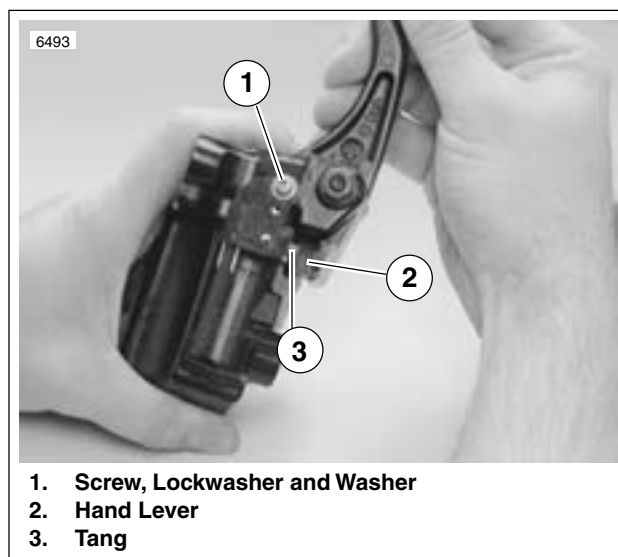

Figure 2-25. Testing Hand Lever
- a. Align hole in lever (3) with hole in master cylinder assembly.
- b. Lubricate pivot bolt (2) with **LOCTITE ANTI-SEIZE**.
- d. Install **nut** (1) (metric). Tighten to **44-62 in-lbs** (5-7 Nm).
5. See Figure 2-25. Install front brake lamp switch (7).
- a. Attach front brake switch with screw, washer and lockwasher (1). Tighten to **7-13 in-lbs** (0.8-1.5 Nm).
- b. Test switch action. Tang (3) on switch must release when hand lever (2) is moved.